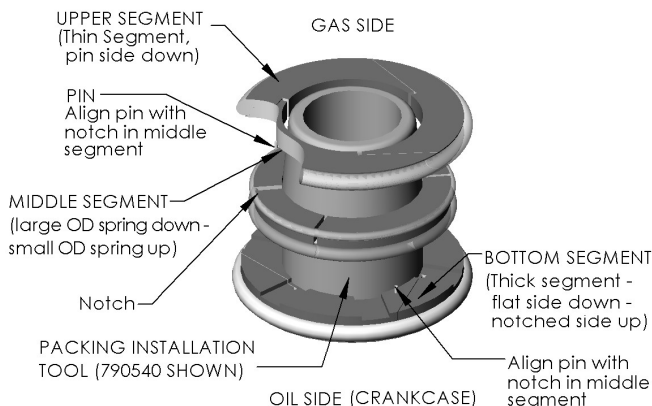

Figure 17b - S3R Oil Seal Orientation
- g. Install the S3R seal in the seal cup as shown in figure 17a. Place the S3R seal on the packing installation tool in the order shown in figure 17b, with the upper segment at the tapered end of the installation tool. Insert the installation tool, with the S3R seal, into the seal cup, with the tapered end toward the packing rings. Place seal cup cover on seal cup and secure with two capscrews